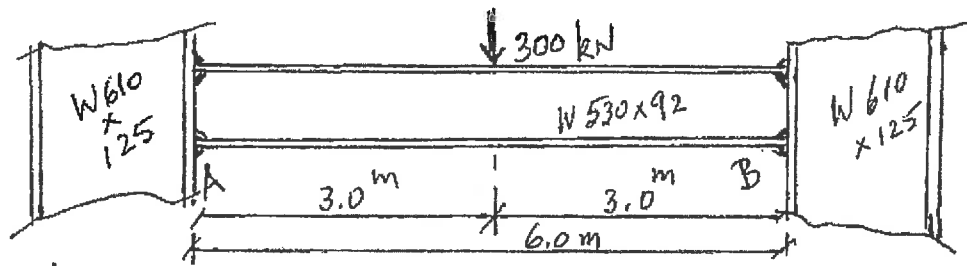

FIGURE A1
- A1. The ends of the steel wide flange beam, W530 x 92, G40.21 350W, in Fig. A1 are fixed to rigid columns, W610 x 125. Design a welded connection at B to transfer both moment and shear at B for the applied load shown. **Note:** Use the Steel Handbook to obtain the values of moment and shear at B.